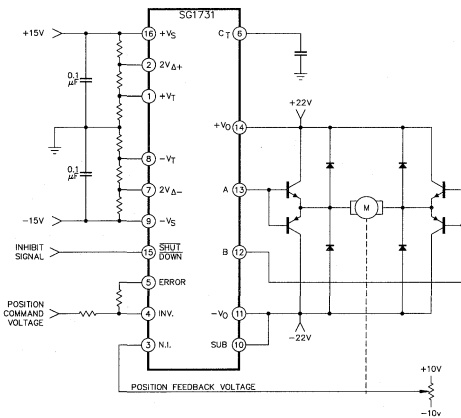
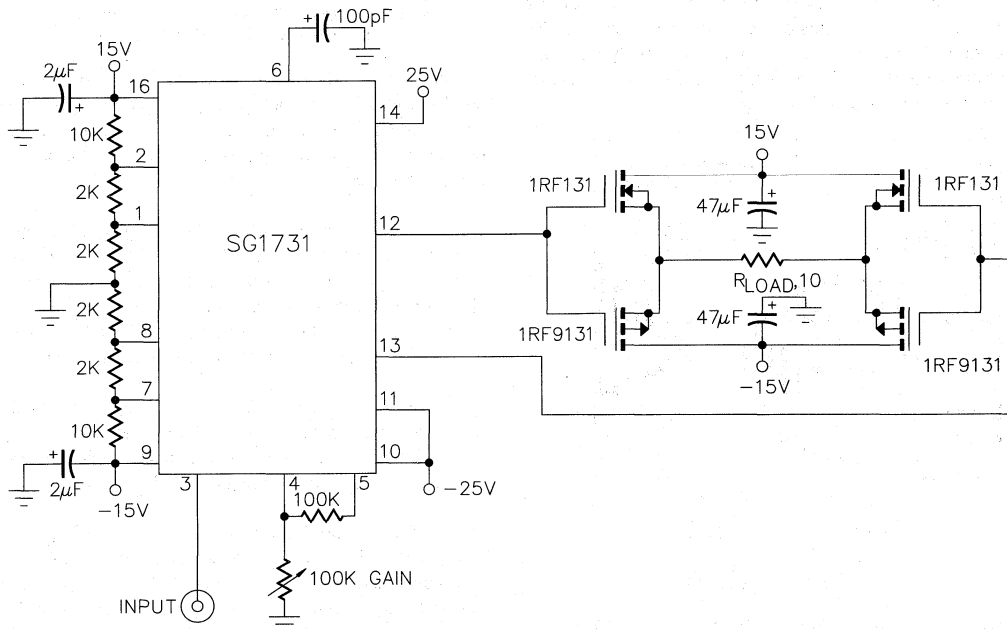

Figure 11. High Torque Position Servo
Figure 10. A Switched-Mode Power Amplifier Using a 25-kHz Carrier Transmits a 400-Hz Waveform to a Load
Figure 11 illustrates a high power version of the previous position servo loop. The control circuit is powered from balanced positive and negative supply voltages, and the output drivers switch the load between  $\pm 32$  volt supply rails for maximum output power. Complimentary emitter follower buffers on each output provide increased current gain and power handling capability.
**Fig 10** shows the 1731 set up to deliver high power to a 10 $\Omega$  load via complementary power FETs. The device's output stage swings  $\pm 25$ V, providing a 10V enhancement for turning on the FETs. The active 1731 outputs are ideal for driving power FETs because they can both source and sink the relatively high gate currents caused by the FETs' input capacitances. **Fig 11** shows the waveforms associated with this circuit.
Figure 11. In These Waveforms for Fig. 10's Amplifier, Trace A is the Amplifier's Input, Traces B and C the 1731's Outputs and Trace D the Waveform Across the Load. Trace E, a 3-kHz Filtered Version of Trace D, Shows That Power Density Approximates Input Signal